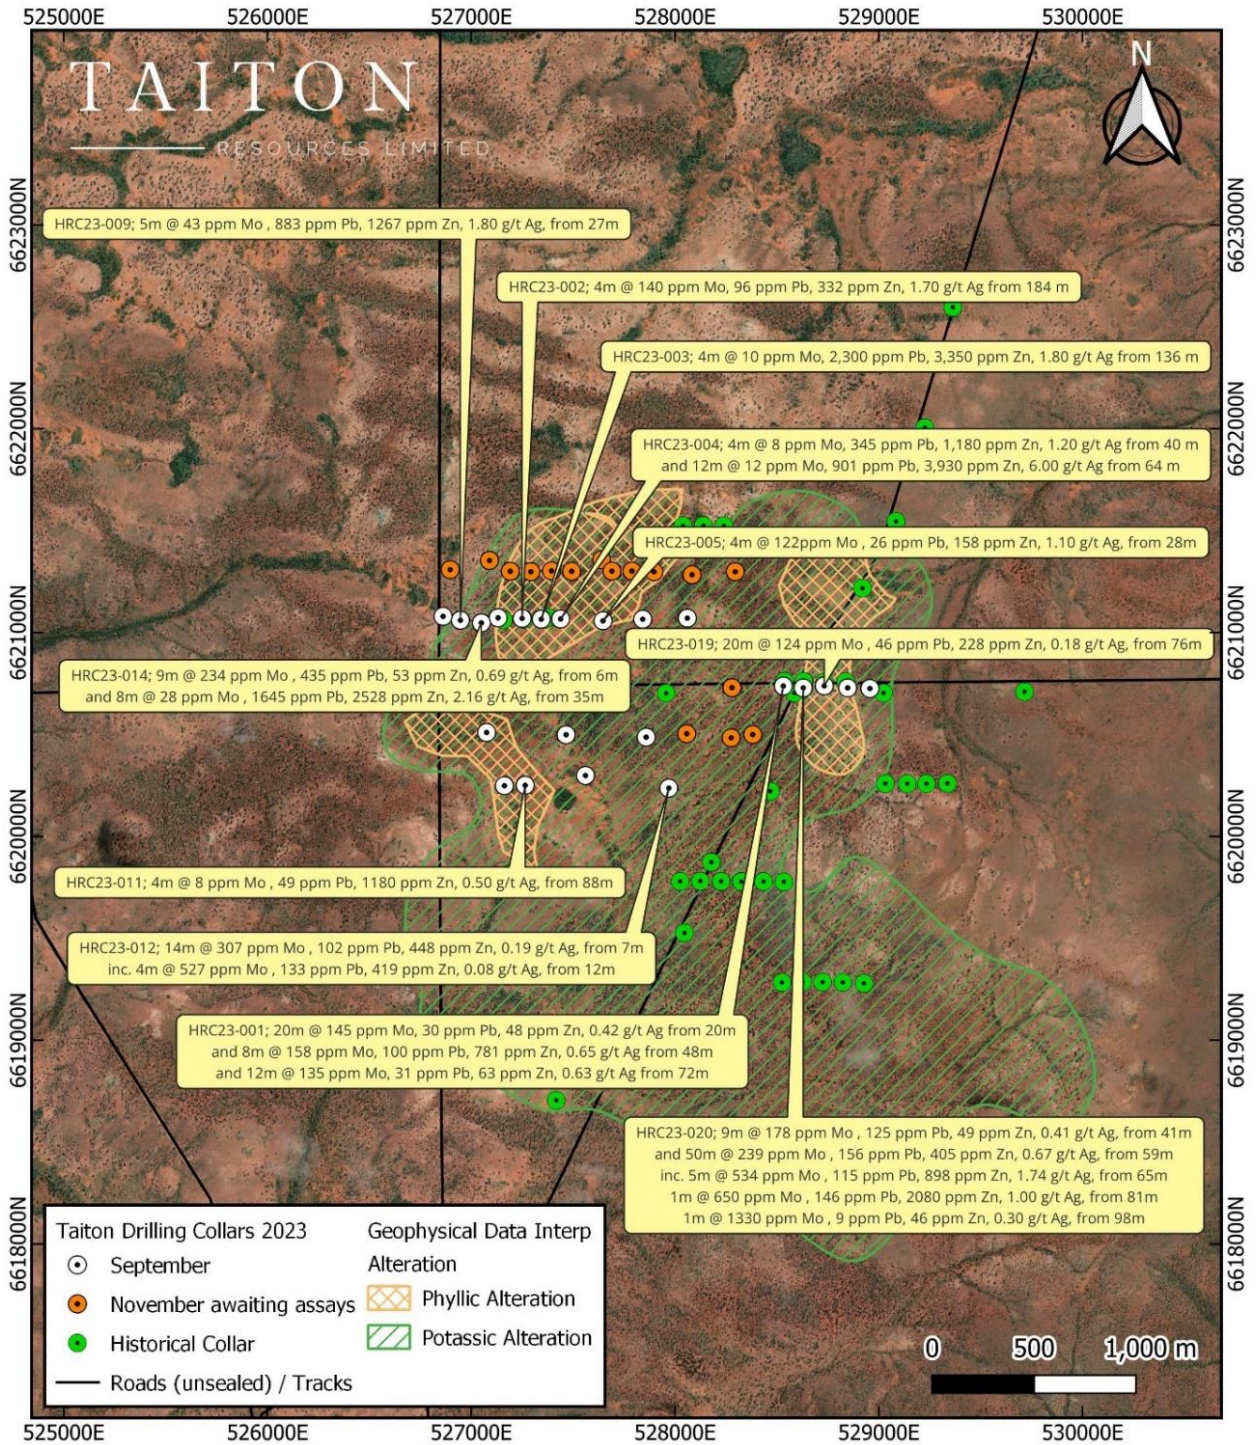

Figure 2. Plan section showing collars and selected significant results.
In September, Taiton completed its maiden drill program at the Merino prospect, comprising twenty-two (22) reverse circulation (RC) holes totalling 3,062m (Figure 2). Table 2 list the collar information for drill program.